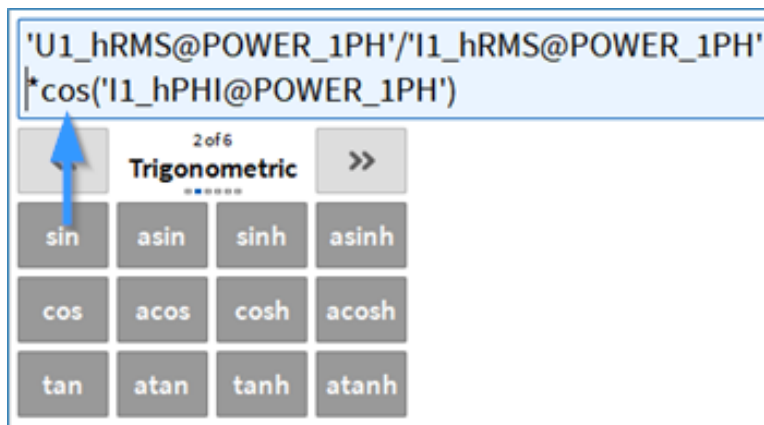

Fig. 7.71: Trigonometric operators in combination with array channels
- Trigonometric operators (see Fig. 7.71)